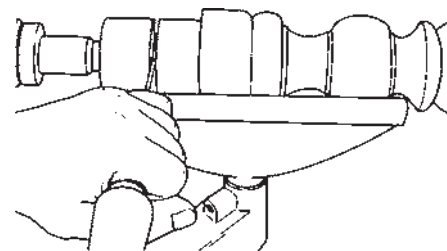

Figure C-49
6. **Parting** -- Use a parting tool, turned on its edge to scrape away stock from the ends of the spindle. See Figure C-49. Always leave $1/8$ the thickness of the diameter. For example: if the diameter is 2", leave $1/4$ "; if 3", leave $3/8$ "; if 4", leave $1/2$ ". Remove the spindle from the lathe and cut off the waste stock.